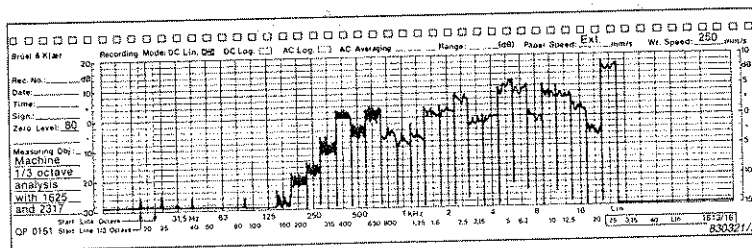
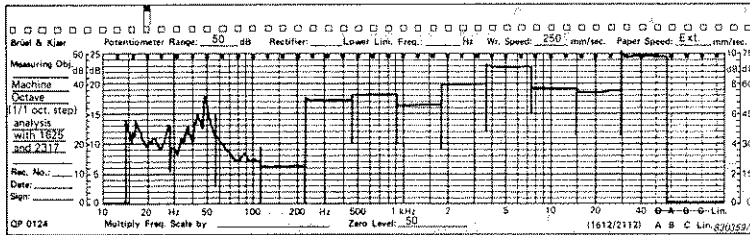

Fig. 3.7. Third Octave analysis on Type 2317
Fig. 3.9. Octave analysis with octave step size
1. With a 50 dB range on the Level Recorder, the "Fast" time weighting gives band-edge lines between the bands approximately 32 dB long (See Fig.3.7 or 3.8), while the "Slow" time weighting gives lines 16 dB long (See Fig.3.9).